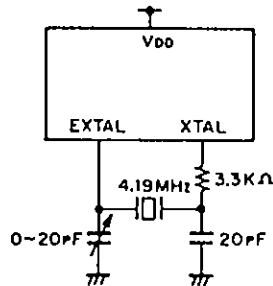

Fig. 13 Frequency adjusting circuit
A circuit where frequency is accurately adjusted is shown on Fig. 13 In this case a 12pF crystal equivalent capacitor (CL) is used.